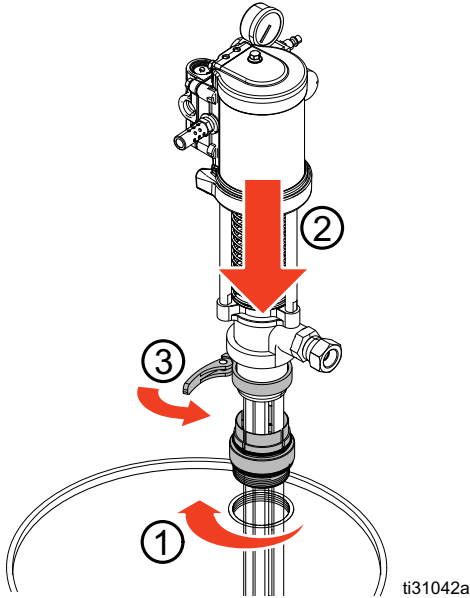

FIG. 9
6. Ensure the gasket is in place and screw the bung adapter securely into the bunghole of the drum (1). Insert the pump through the adapter (2) and lock it in place (3). See FIG. 9.